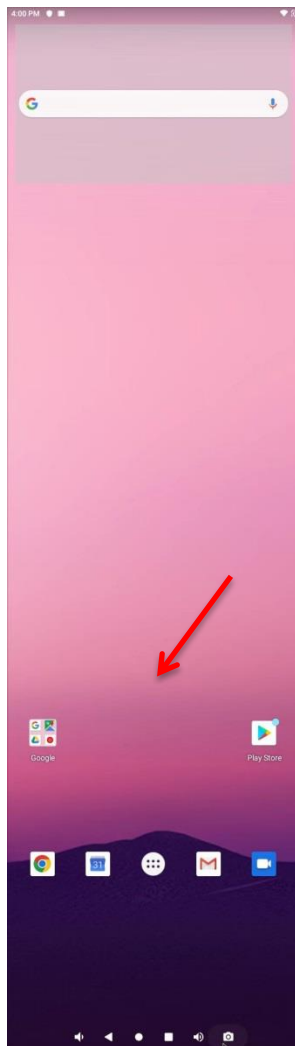

Fig. 1
1. Click the Main Apps button "⋮" in the Home page to enter the "Apps" menu interface (Fig. 1);